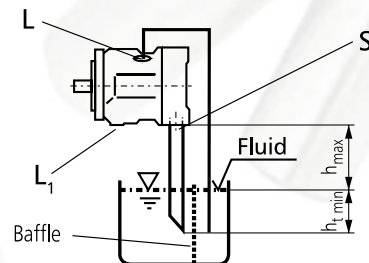

Fig. 4
- If the minimum fluid level is equal to or below the top of the pump, pipe ports "L" and possibly "S" as Fig. 4.; close port "L₁". The conditions according to item 1.2.1.
- When mounting above the reservoir, see Fig. 4.